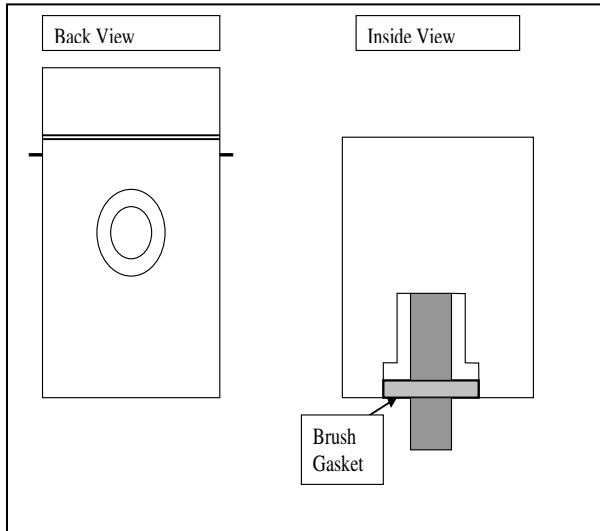

Figure 1
- Step Two: Position ASH ARRESTOR™ over 3” vent pipe. The pipe should fit evenly in the pipe opening. (Hole in unit should not touch vent pipe.) (Figure 1)
- Step Five: Mount angle brackets (2) on building with screws provided. (Note because of the use of different building materials, fiber board for example may require, specialized mounting screws to anchor angle brackets securely to building.) (Not Provided)
- Step Six: Insert Brush gasket into slots in the back inside of the ASH ARRESTOR™. (Figure 1) and wrap the piece of aluminum tape around vent pipe where brush gasket contacts it.
- Step Seven: Position ASH ARRESTOR™ and slide angles on to angle brackets mounted to the building. Slide back until angles on unit contact the stops on the angles mounted to the ASH ARRESTOR™ or venting stops inside ASH ARRESTOR™ are contacted. (Figure 1)
- Step Eight: Using a ¼ drill bit, drill out the hole in the mounting bracket to allow you to secure angle brackets together with stainless steel screws(2) provided.